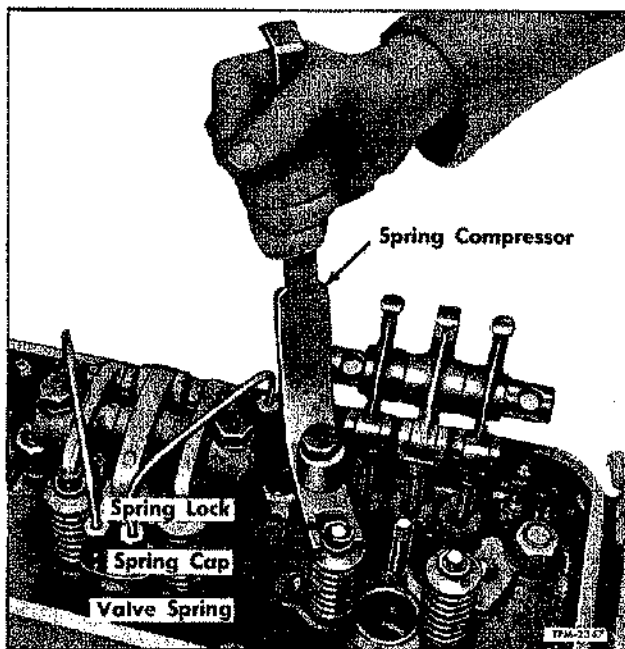

Figure 94—Compressing Valve Spring with Tool to Remove Valve Lock (2 Valve Head)
1. Install a cap screw through valve lifter tool bushing and valve lifter tool (fig. 94). Thread this cap screw into tapped hole of cylinder head adjacent to the valve spring to be removed.